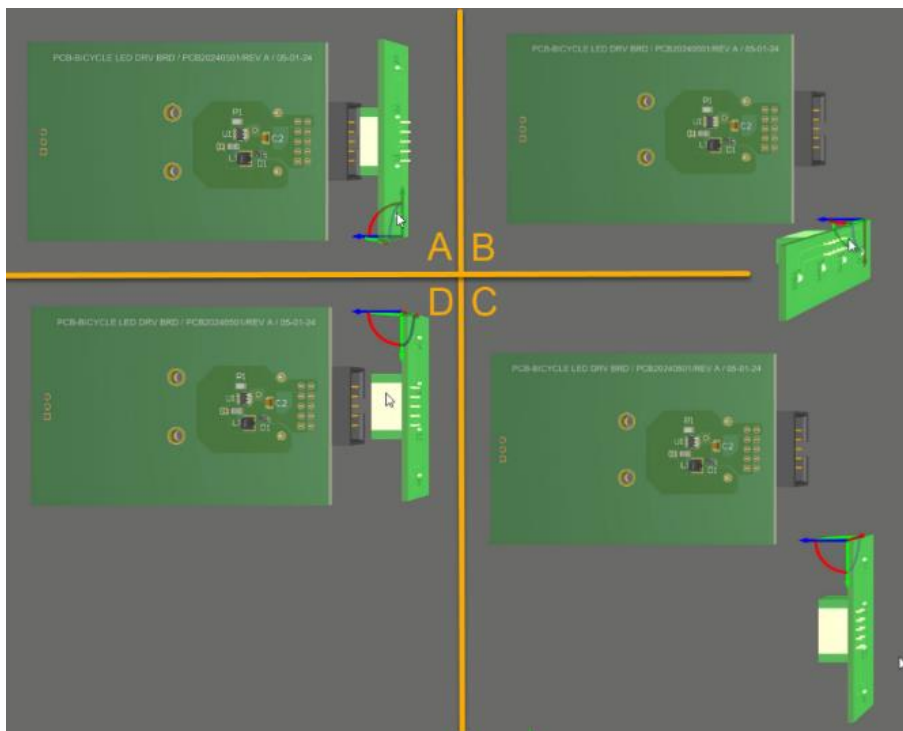

Figure 27. Flip sequence of smaller board and alignment with larger board
60. Now, flip the small board to correct the pin orientation to that of the larger board. The sequence is shown in Figure 27.